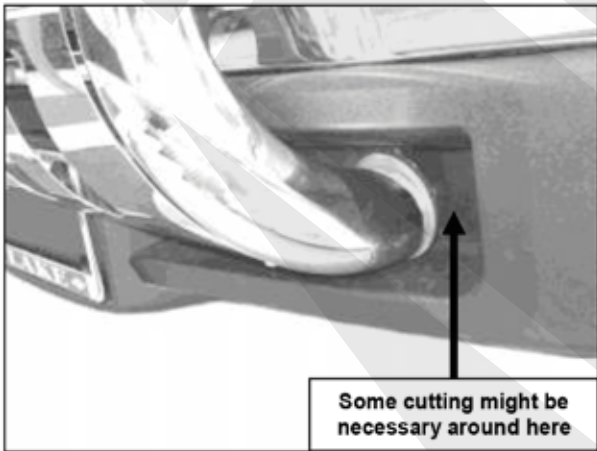

Figure 3
**4)** With help position Bull Bar assembly on the inner side of Frame Brackets. Attach Bull Bar Brackets to Frame Brackets using the included (4) 10mm x 30mm Hex Head Bolts, (4) 10mm Lock Nuts, (4) 10mm Hex Nuts, and (8) 10mm Flat Washers (Figure 3 & 4). Do not tighten at this time.